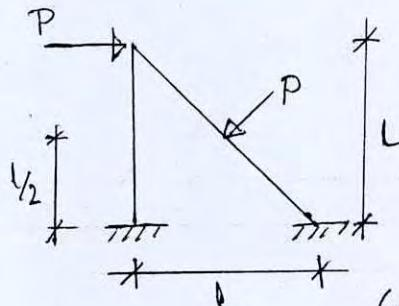

Fig. 9
9. Determine the stiffness equation in matrix form for the frame shown in Fig. 9. Consider axial deformation. Assume that the members have same flexural and axial rigidity. (21)